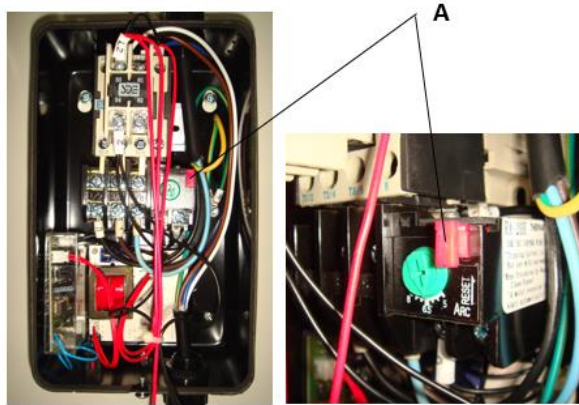

Figure 17
2. Press reset button (A, Figure 17) to reset the overload relay.